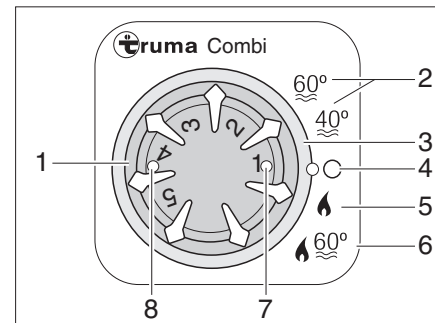

Fig. 160 Operating unit for heater/boiler
- ▶ Set the operating mode using the rotary switch (Fig. 160,3).
In the "Heater and boiler" operating mode (Fig. 160,6) the water in the boiler is also heated. The heater can be operated with an empty boiler in the "Heater without boiler" operating mode (Fig. 160,5).
- ▶ Set the temperature control knob (Fig. 160,1) at the operating unit to the desired heating level.
- ▶ Set the rotary switch (Fig. 160,3) to winter operation "Heater without boiler" (Fig. 160,5) or to winter operation "Heater and boiler" (Fig. 160,6).
Green indicator lamp (Fig. 160,7) lights up. The circulation fan automatically switches on when the heater is activated.
- ▶ Set the rotary switch (Fig. 160,3) to "O" (Fig. 160,4).